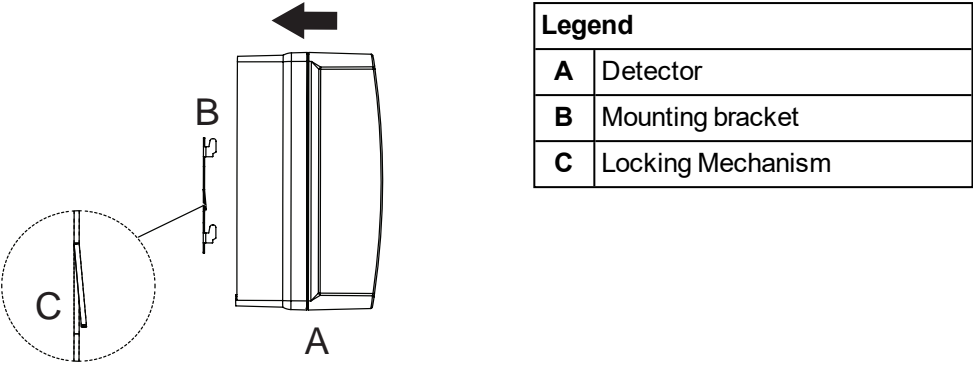

Figure 3-5: Mounting the detector
2. Ensure that the locking mechanism (C) is bent outwards, as shown below in Figure 3-5.
3. Place the four slots located at the rear of the detector onto the hooks (D) of the mounting bracket.
4. Slide the unit downwards onto the hooks (D) until the locking mechanism (C) clicks.